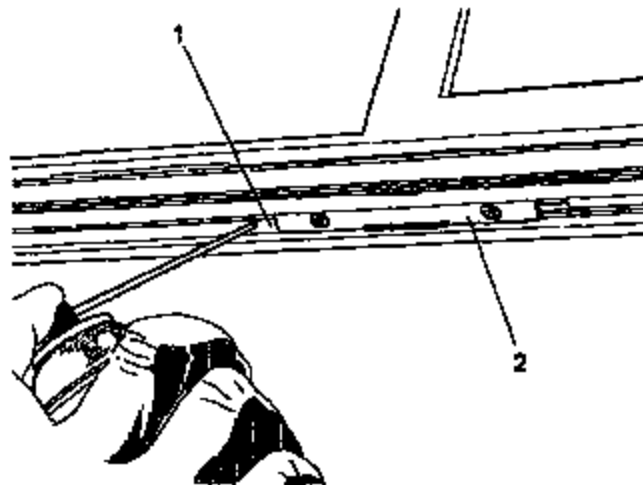

Figure 1-1 Applying Lithium Grease to Window Track
4. Spray white lithium grease to the window track (to the left and right of each nylon slide (2)) and the aluminum channel area where the nylon slides travel. See Figure 1-1.